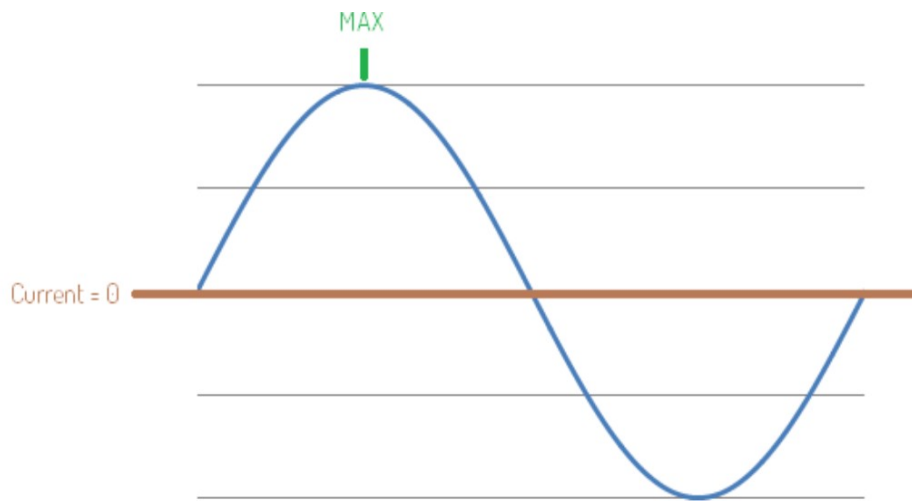

Figure 91. Trigger out event - signal maximum.
- MAX (maximum) – A signal reached its maximum (only applicable to tACS) (Figure 91)